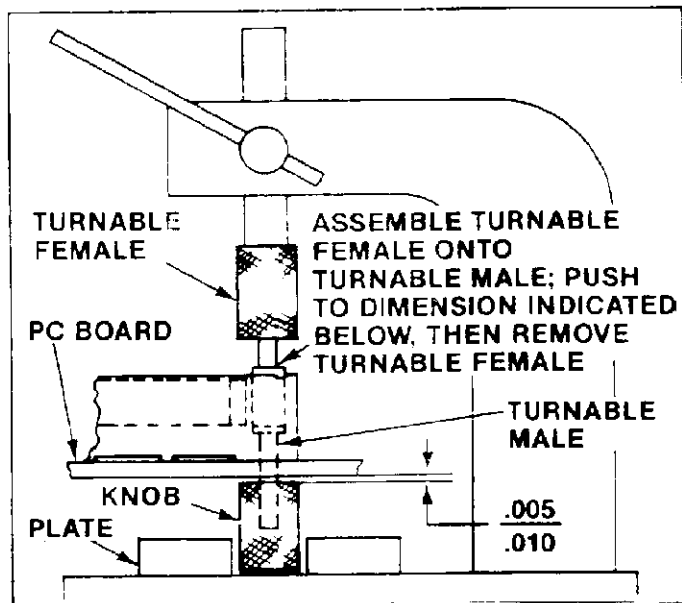

Fig. 5
7. To assemble a turnable male jackscrew to a knob, first screw a turnable female jackscrew onto the male jackscrew. Use the same plate mentioned in Step 6 to nest the knob. Next, line up the components as shown in Figure 5 and seat the jackscrew into the knob by using an arbor tool.